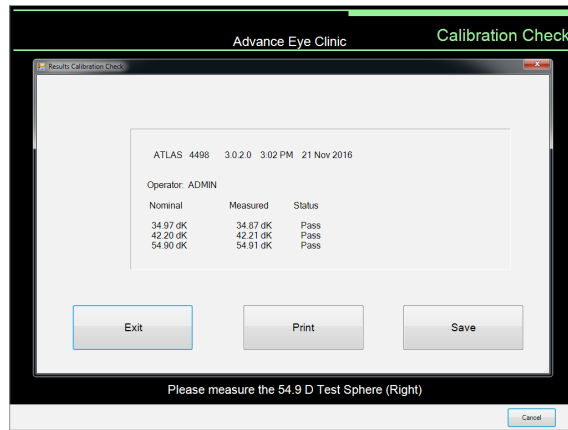

Figure 5
- When you have finished the steps of capturing images for all three spheres on the test eye, a dialog appears (Figure 5) showing the final results of the complete calibration test.